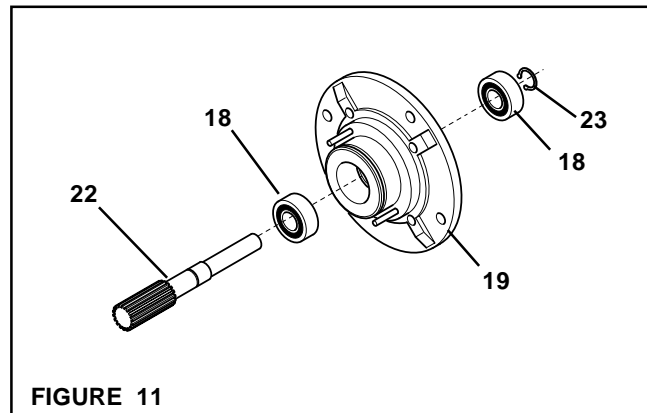

FIGURE 11
25. Remove the Retaining Ring (Item 23) from the Stub Shaft (Item 22) (See Figure 11).
26. Press the Stub Shaft (Item 22) out the Male Pilot (Item 19) (See Figure 11).
27. Press the old Bearing (Item 18) off the Stub Shaft (Item 22) (See Figure 11).
28. Press the old Bearing (Item 18) out of the Male Pilot (Item 19) (See Figure 11).
29. Clean the bearing bore of the Male Pilot (Item 19) with fresh safety solvent, making sure all old Loctite® residue is removed (See Figure 11).
30. Apply an adequate amount of Loctite® 680 to evenly coat the outer race of the first new Bearing (Item 18) and press it into the output side of the Male Pilot until it is seated against the Retaining Ring (Item 17) inside the Male Pilot (See Figure 11).
31. Press the second new Bearing (Item 18) onto the Stub Shaft (Item 22) (See Figure 11).
33. Carefully align the outer race of the second new Bearing (Item 18) with the bore of the Male Pilot (Item 19) (See Figure 11).
34. While supporting the Male Pilot (Item 19) and the inner race of the first new Bearing (Item 18) and pressing on the outer race of the second new Bearing (Item 18), press the second new Bearing and Stub Shaft (Item 22) into the Male Pilot (See Figure 11).
36. Apply a thin film of NEVER-SEEZ® to the splines of the Stub Shaft (Item 22) (See Figure 11).